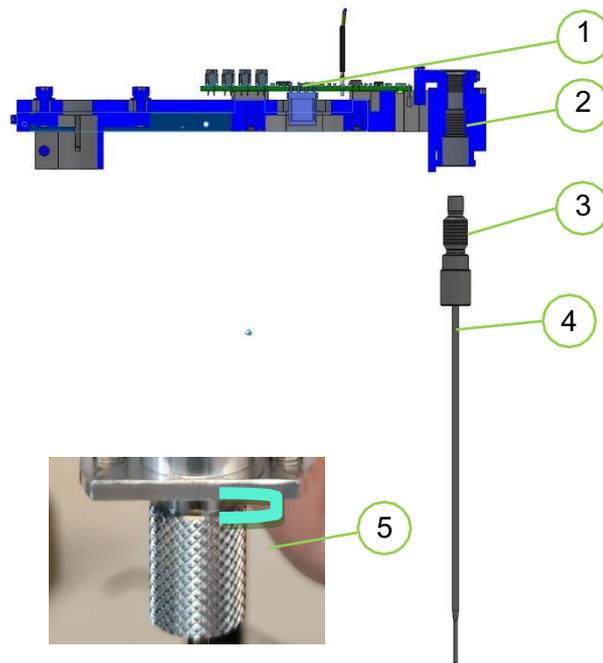

Figure 45: Schematics for the Needle Fluidics Sealing
The pipettor needle can be replaced by the user by unscrewing the needle from the thread and inserting a new one. The new needle needs to be fastened tight to seal the fluidic system (see Figure 45).
Only touch the needle on its grip, Figure 45 (4).
Make sure there is a gap, Figure 45 (5) between the housing and the grip of the needle after tightening. If you do not see a gap, contact MADx Support or your local distributor.